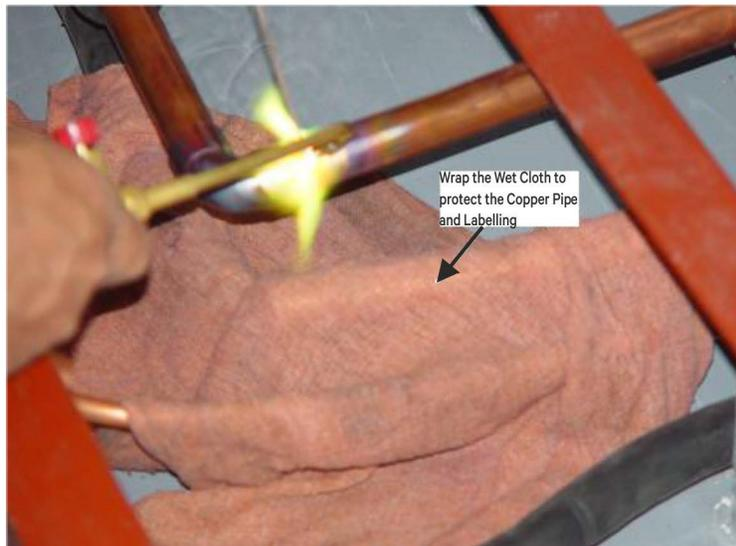

Figure 2-23 Copper Pipe Brazing Protection Diagram
3. If other devices, such as globe valve, schrader valve, expansion valve, etc., are located within one meter of the brazing point on the copper pipe, apply the wet cloth to wrap the devices as a protective treatment, see Figure 2-23.